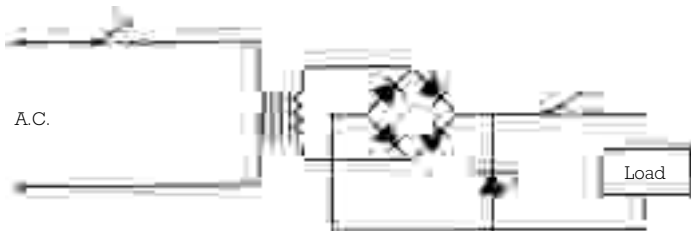

Fig. 11
6.2. Suppression of transients caused by load switching (Fig. 11)